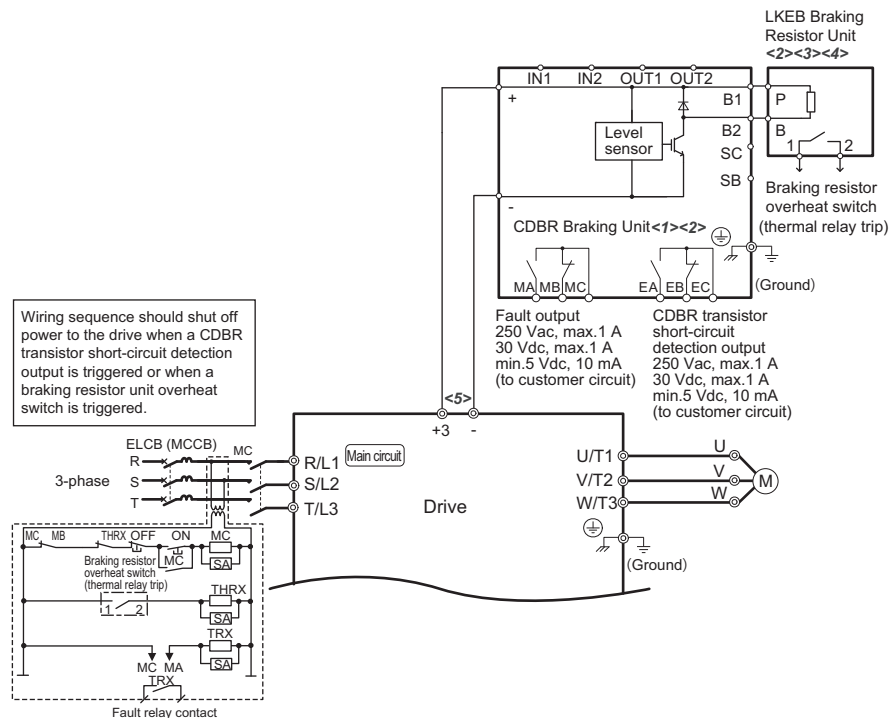

Figure 20 Connection Diagram
1. For all CDBR wiring refer to Table 10 for wire gauge and torque specifications and refer to Figure 20 for the drive and option connection diagram